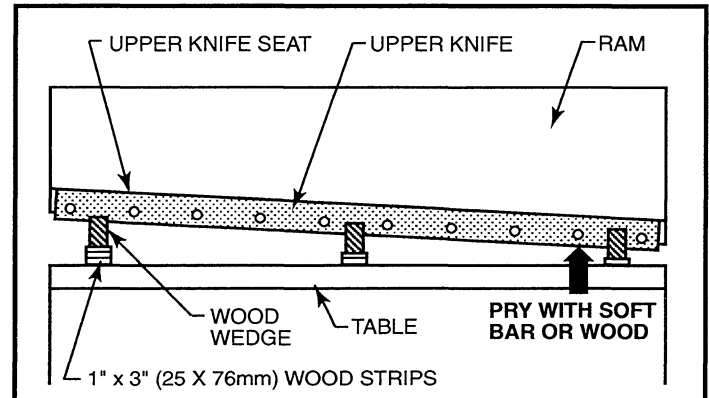

FIGURE 9-6 - Block upper knife
14. Place three 1" x 3" (25 x 76mm) strips of wood "C"-clamped on the table, one near each end and one in the center of the table. These strips must project under the upper knife. Position a wood wedge on top of each wood strip between the upper and lower knife. **Do not drive them tight.** Refer to Figure 9-6. Extra blocks may be required under wedges at left end.
- 30. Pry the upper knife with a soft bar or strip of wood into the upper knife seat. Pry up as far as possible and slide wedges under knife to hold in position. Continue this procedure until the knife is in the seat. Refer to Figure 9-6. Snug-up the knife bolt nuts enough to hold the knife in place. **Do not tighten.** Remove the wedges and wood strips.